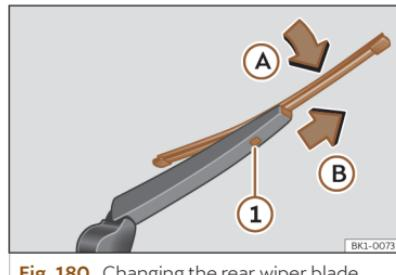

Fig. 180 Changing the rear wiper blade
- Rotate the blade lightly >>> Fig. 180 (arrow A).
- Hold down the release button ① while gently pulling the blade in the direction of arrow (B).
- Insert a new blade of the **same length and type** in the rear wiper arm in the opposite direction to the arrow **B** until button **①** hooks into place.